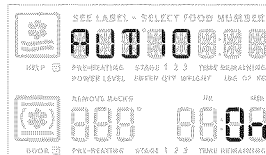

Fig. 1
2. Use the +hi or -lo to choose the off option -Fig. 1- or the on option -Fig. 2-.	+ - hi or lo